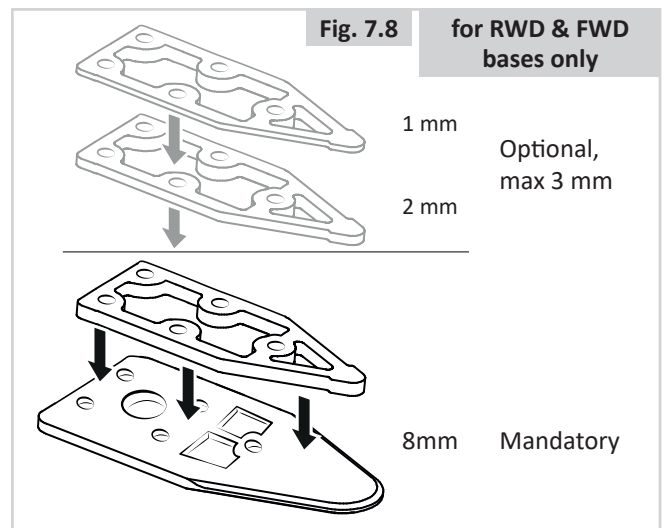

Fig. 7.8
2. Use more spacers to achieve desired thickness with regards to, for instance, user weight and tyre pressure (Fig. 7.8). Additional spacers can be mounted under the locking station. To align the height of the lock plate under wheelchair with the Mark II docking station fit spacers between the docking station and the vehicle floor to raise the docking station. The Dahl Variodock is power height adjustable indicating, thus additional spacers are not needed to align the height.